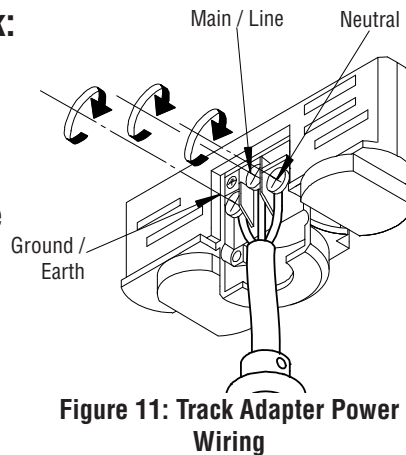

Figure 11: Track Adapter Power Wiring
Step 1. If not done at factory, connect AC wiring as shown in **Figure 11**. Also refer to Table 1 “Input Wiring on page 10.